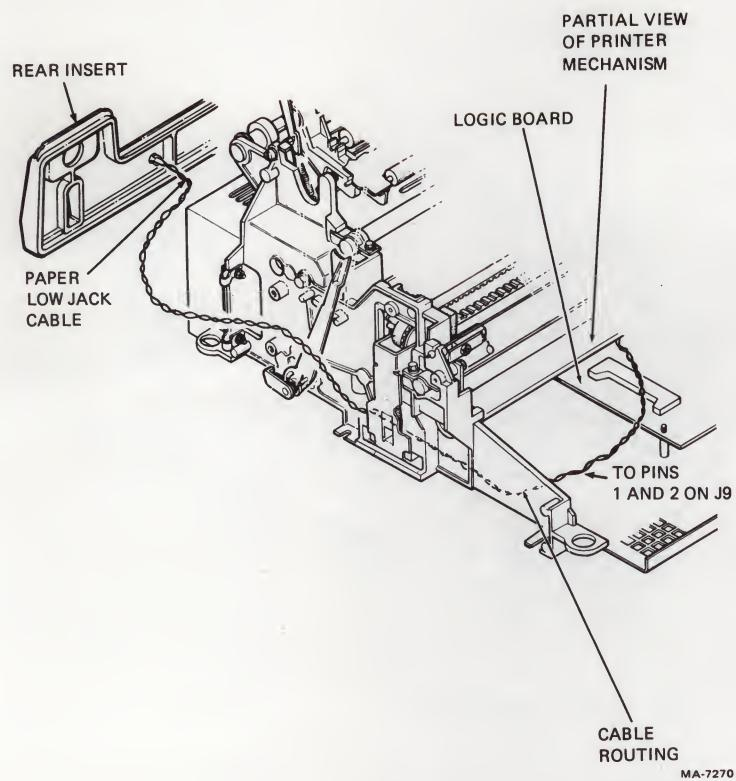

Figure 8-9 Paper Low Jack Cable Routing
11. Route the paper low cable connector around the printer mechanism and connect to J9 on the logic board (Figure 8-9).